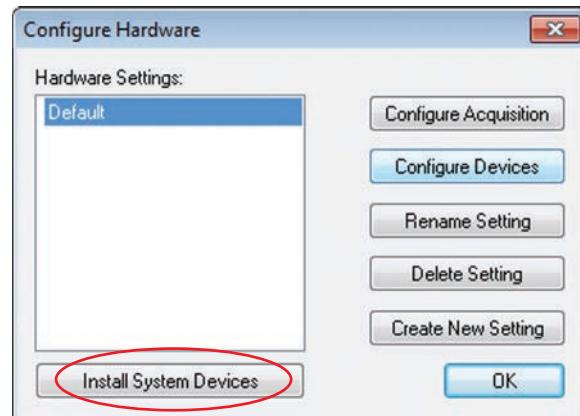

Figure H-9. Install System Devices
4. As shown in Figure H-9, select the desired setting or create a new one, and then click the Install System Devices button.